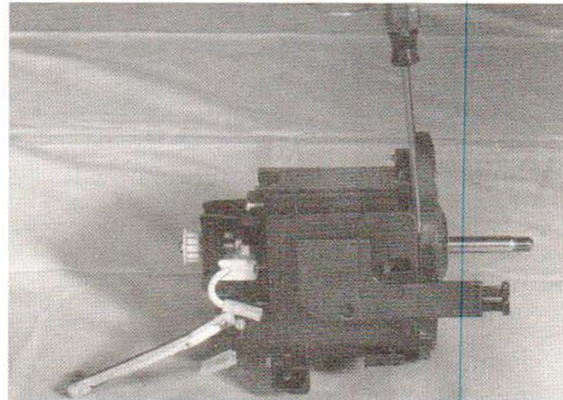

Figure 30. Power Switch Replacement
- A. See Figure 30. If any leads remain attached to the switch, remove them.